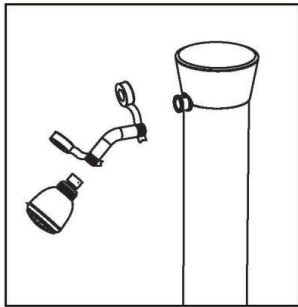

FIGURE 1
2. Attach the elbow tube to the shower. Attach the large shower head to the elbow tube. Use Teflon tape at both connections to eliminate leaks - see **Figure 1**.